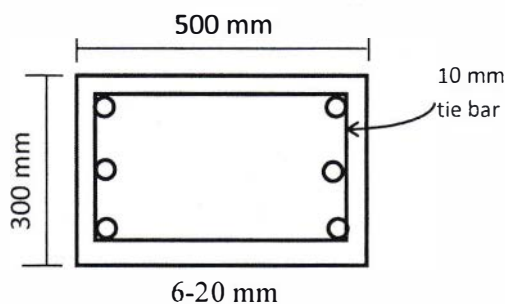

Figure 3: Sections of column
- a. A column of reinforced concrete structure as shown in **Figure 3** needs to be checked for 2000 kN axial load and 200 kN.m bending moment in longer direction. Evaluate and justify (through analysis of column) whether it could sustain the load and moment at balanced failure condition. Assumed required information for analysis of column. [10]